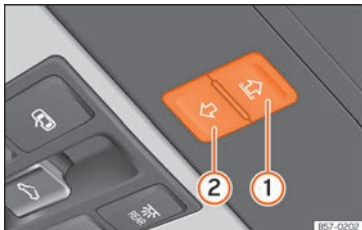

Fig. 91 On the interior roof lining: sunshade blind buttons.
Buttons **»» Fig. 91 1** and **2** have two levels. The first level opens or closes the sun blind fully or partially.
- *Sunshade blind*: within approximately 5 seconds of having activated the anti-trap function, press button »» Fig. 91 Ⓜ until the sun blind closes completely.